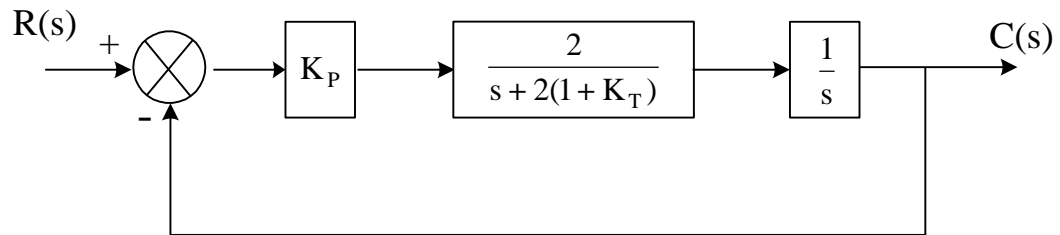

Figure 4/Rajah 4
4. **Figure 4** represent the block diagram of a process control system with gain K_p and K_T .